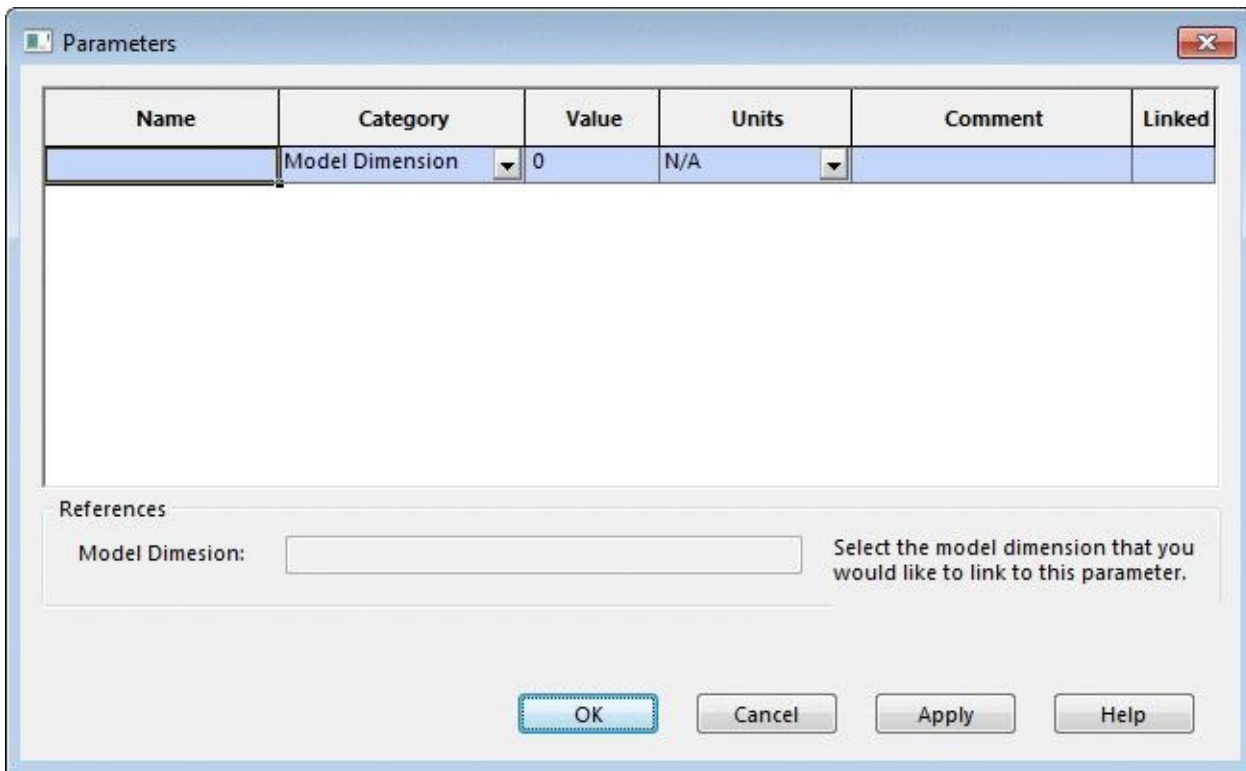

Figure-17. Parameters dialog box
- Click on the **Add Parameter** option from the drop-down list. The **Parameters** dialog box will be displayed and you will be prompted to select a dimension that is to be varied; refer to Figure-17.